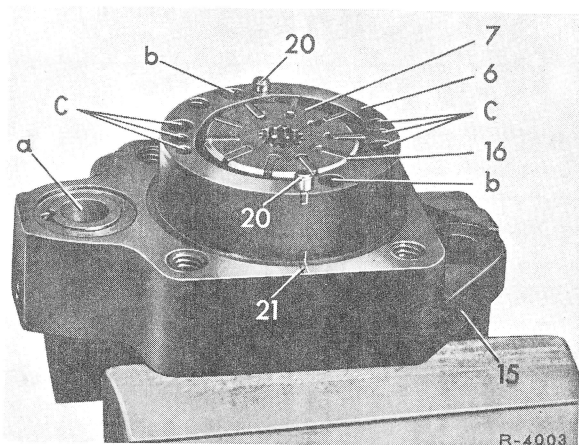

Fig. 6
6 Place rotor (7) on drive shaft (11) in such a manner that the countersunk end of the splined bore faces the housing cover (Fig. 6 and 9).